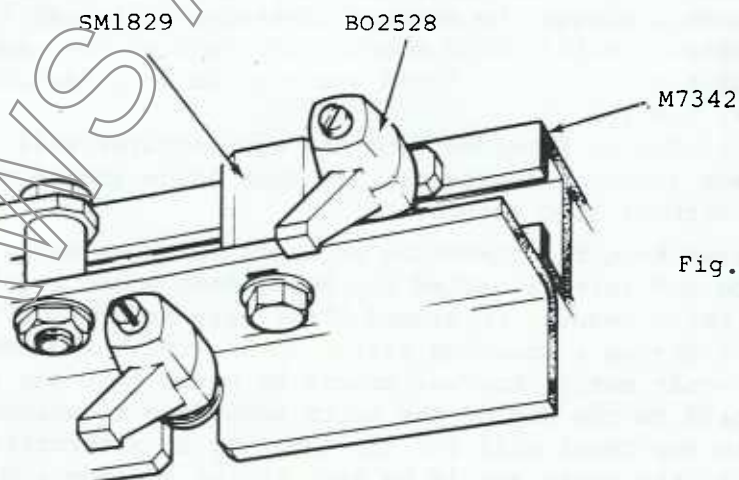

Fig. 13
2. Release the stop assembly via the m8 bolt securing it to the angle bracket (see Fig. 13).